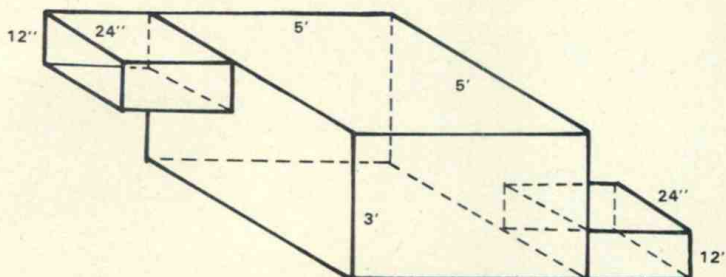

Figure 8: Dimensions of a plenum which will yield about 21 dB attenuation throughout much of the audible spectrum.
A sound absorbing plenum is an economical device for achieving significant attenuation. Figure 8 shows a modest sized plenum chamber which, if lined with 2" thickness of 3 lb./cu. ft. density glass fiber, will yield a maximum of about 21 dB attenuation. The attenuation characteristics of this plenum, calculated by Equation 3, page 35.13, Reference 2, are shown in Figure 9 for two thicknesses of lining. With a lining of 4" glass fiber board of the same density quite uniform absorption is obtained across the audible band. With 2" glass fiber board attenuation falls off below 500 Hz. It is apparent that the attenuation performance of a given plenum is determined primarily upon the lining.
Figure 10 gives actual measurements on a practical lined plenum muffler approximately the same horizontal dimensions as that of Figure 8, but only half the height and with baffles within. Attenuation of 20 dB or more was realized in this practical case above the 250 Hz octave and it solved an otherwise intolerable noise problem.
Figure 9: Calculated attenuation characteristics of plenum of Figure 8 lined with 2" and 4" glass fiber of 3 lb./cu. ft. density. Calculations followed ASHRAE procedures.
Figure 10: Measured noise sound pressure levels (A) at plenum input and (B) in room 5 ft. from supply grille. This plenum is approximately the size of that of Figure 8 but only half the height but it contained baffles.